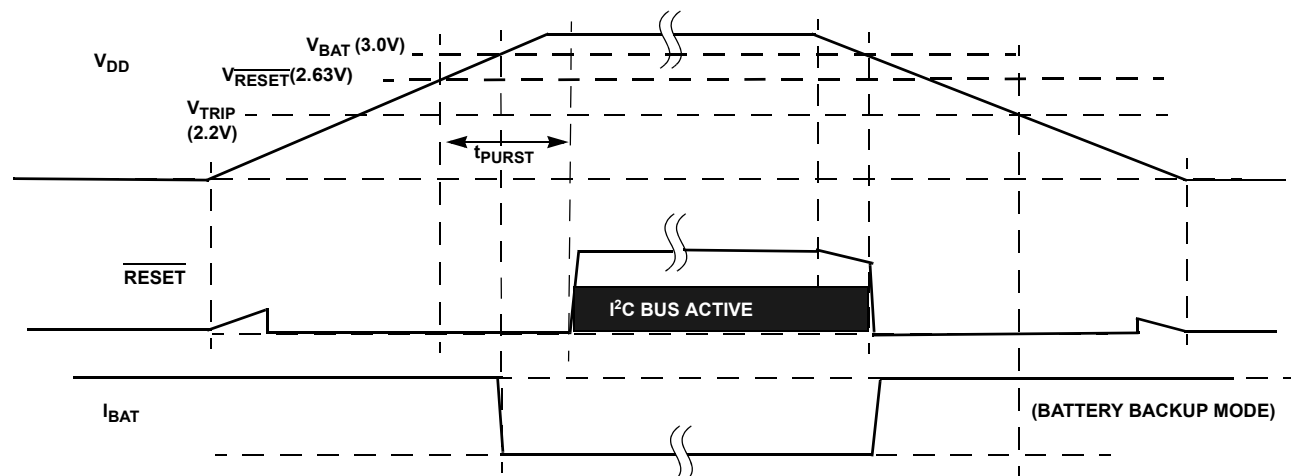

FIGURE 30. RESET OPERATION IN MODE D
- Mode D - In this mode, the selection bits indicate switchover to battery backup at $V_{DD} < V_{BAT}$, and no I²C communications in battery backup. This mode is unique in that there is I²C communication as long as VDD is higher than $V_{\overline{RESET}}$ or V_{BAT} , whichever is greater. This mode is the safest for guaranteeing I²C communications only when there is a Valid V_{DD} (see Figure 30).